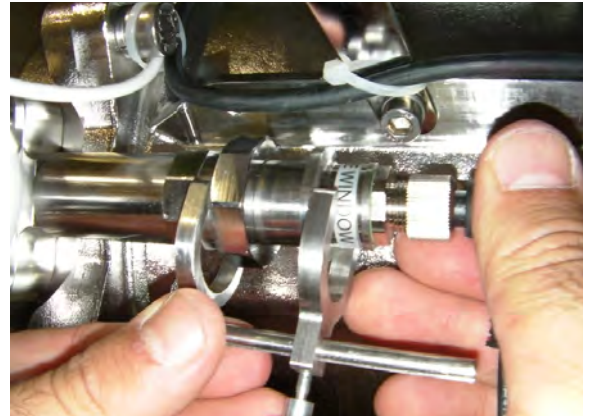

Figure 10-24: Adjusting the Reference sensor
Step 6. When you insert a Reference Master sensor or return a sensor to its place, using the set caliper (calibrated to the original UVIS sensor's position) adjust the sensor so that it is set to the position of the original. Refer to **Figure 10-24** to the left.